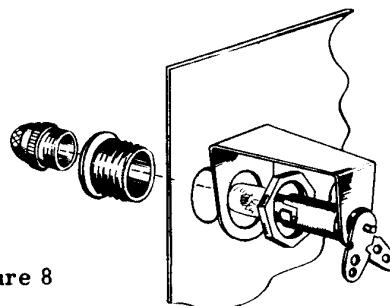

Figure 8
- () Refer to Figure 8 and mount the pilot light assembly at PL. The bushing, lamp and jewel are installed from the front of the panel.